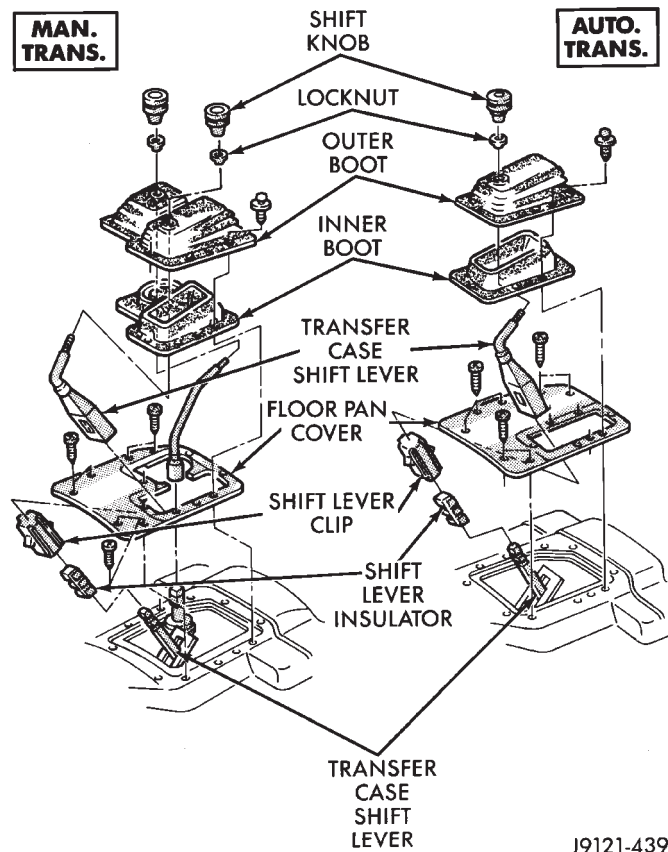

Fig. 7 Transfer Case Shift Lever And Boots (YJ)
(4) Lower vehicle.
(5) Install shift lever bezel and boot (Fig. 7). Then install retaining nut and shift knob on lever.